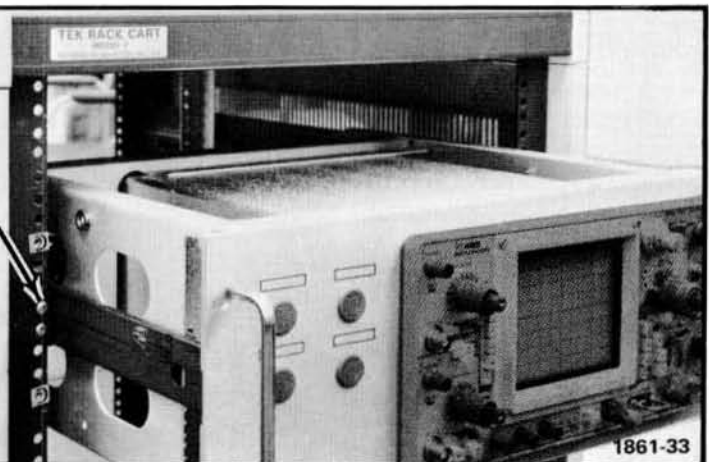

Figure 2-18. Alignment adjustment for correct operation.
11. Adjust the alignment of the stationary sections according to the procedure outlined in Figure 2-18. (If the rear alignment is changed, recheck the rear support pins for correct alignment.)